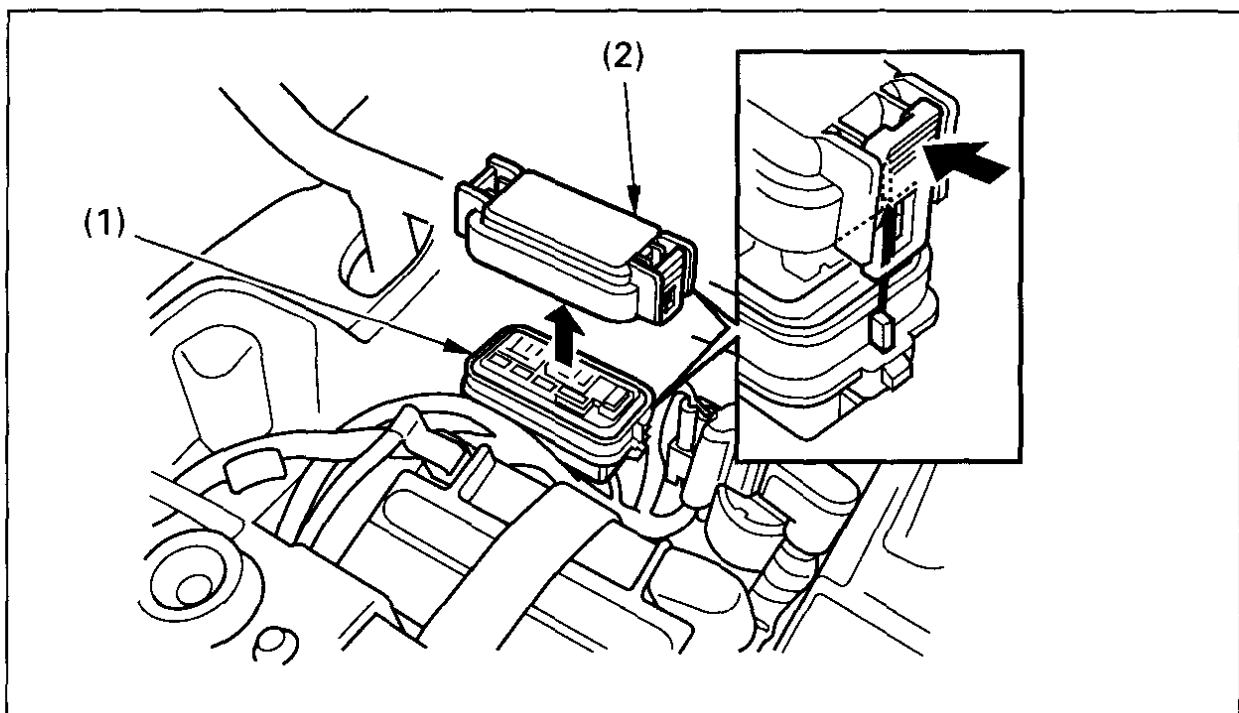

Fig. 4-20
As illustrated in Fig.4-20 , the fuse box (1) is located in the battery compartment. The main fuse, main fuse (electric shift motor), sub fuses and spare fuses are located in the fuse box.